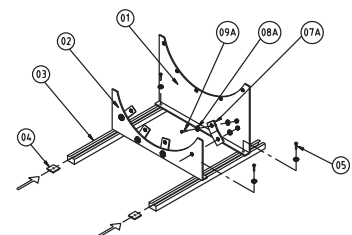

Fig. 6. Mounts for types ACP and ACG Smoke 1250-1600
ACP and ACG Smoke sizes 1250-1600 have circular fan housing. The housing is therefore installed using mount fittings (fig. 6 pos. 07A) and joining elements (fig. 6 pos. 08A and 09A).
The fittings must be attached to the back of the mount and fan housing. See fig. 6.